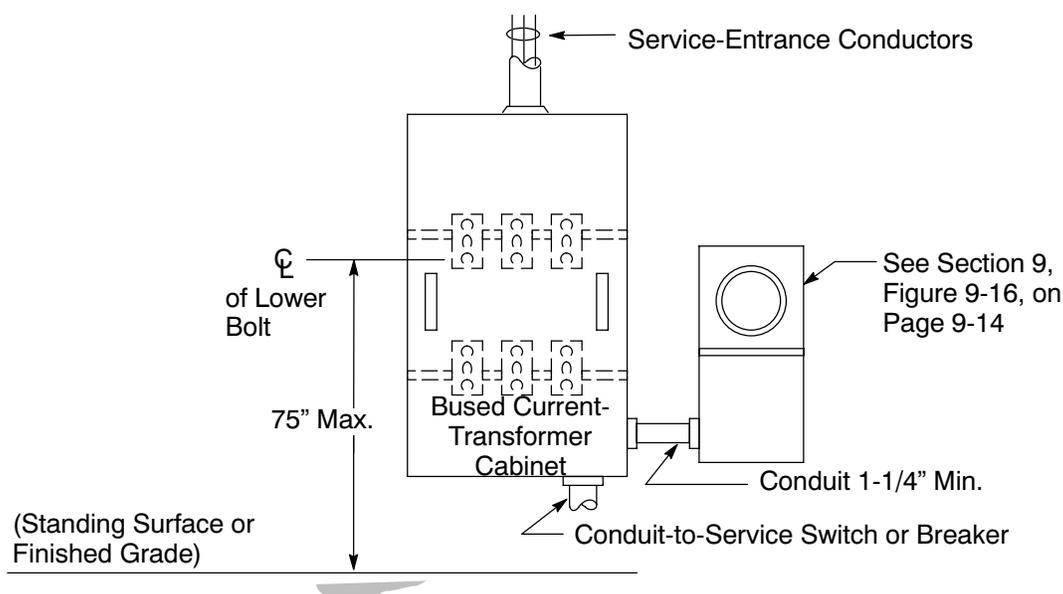

Figure 7-10
1. When installing a single, overhead, commercial or industrial service using current transformers, applicants must furnish, install, and maintain separate current-transformer cabinets and meter boxes, as illustrated in Figure 7-10, "Overhead-Fed, Separate-Bused, Current-Transformer Cabinet and Safety-Socket Meter Box (401 Amperes Through 800 Amperes)," shown below. Also required are service-entrance conductors, conduit, and weatherhead to the point of attachment to PG&E's overhead service.